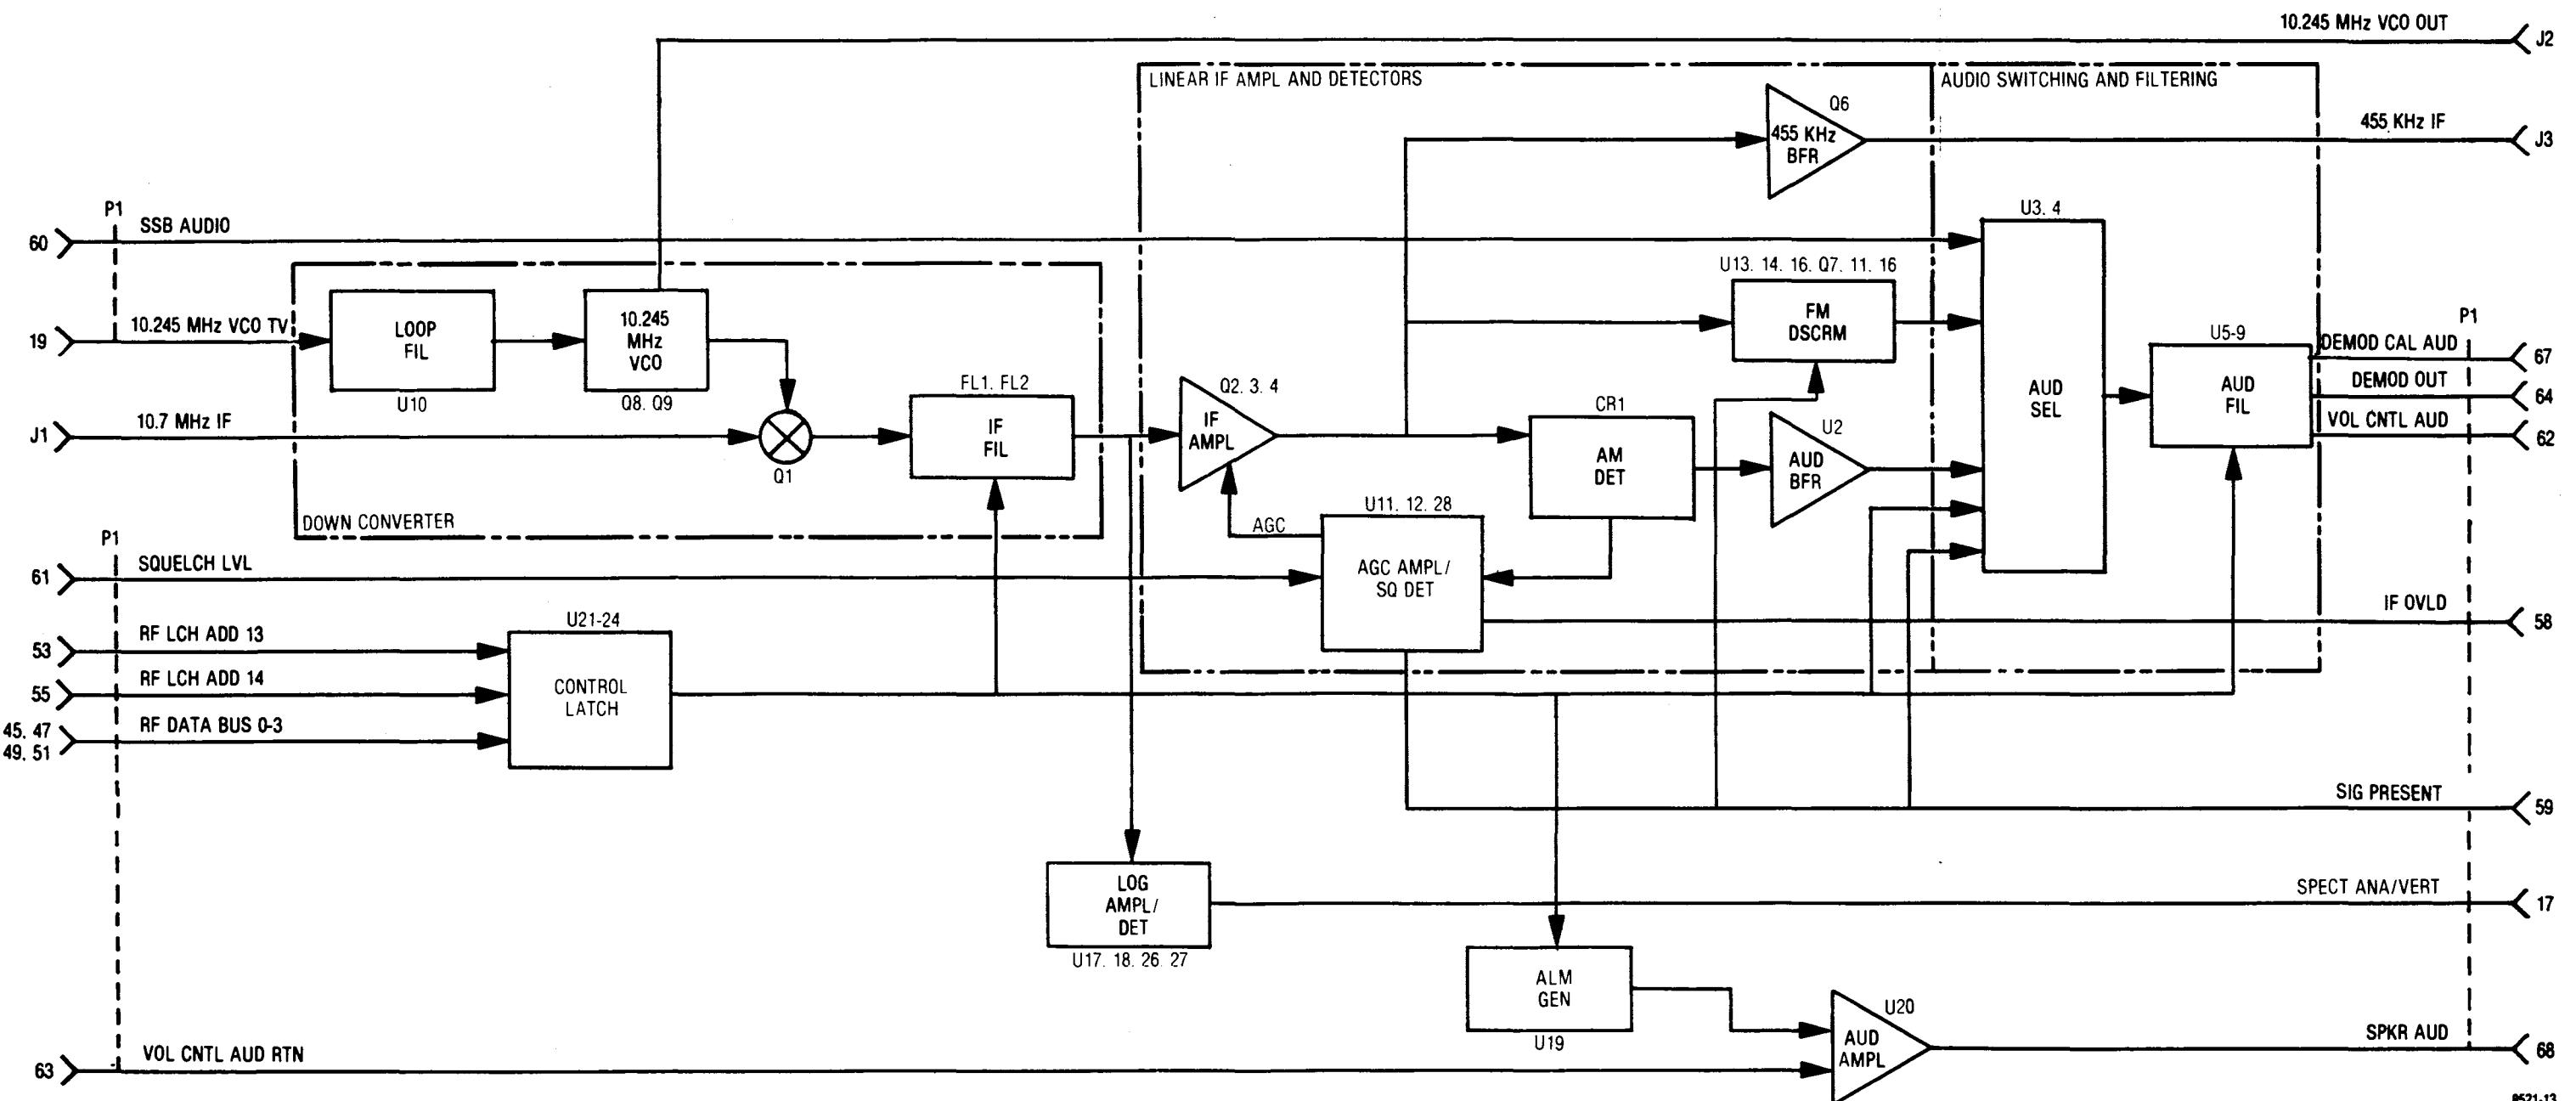

Figure 10-1. Receiver A4 Block Diagram
**10-1. General.** The Receiver down converts the 10.7 MHz first IF signal to 455 kHz. Following the down conversion a linear or a logarithmic IF amplifier provide the gain prior to AM and FM detectors or the spectrum analyzer detector respectively. Post detection filtering provides the wide or narrow band responses for the audio outputs. The audio amplifier for the speaker and the alarm generator are also contained on this module. A block diagram of the Receiver is shown in figure 10-1 and its schematic in figure 10-2.